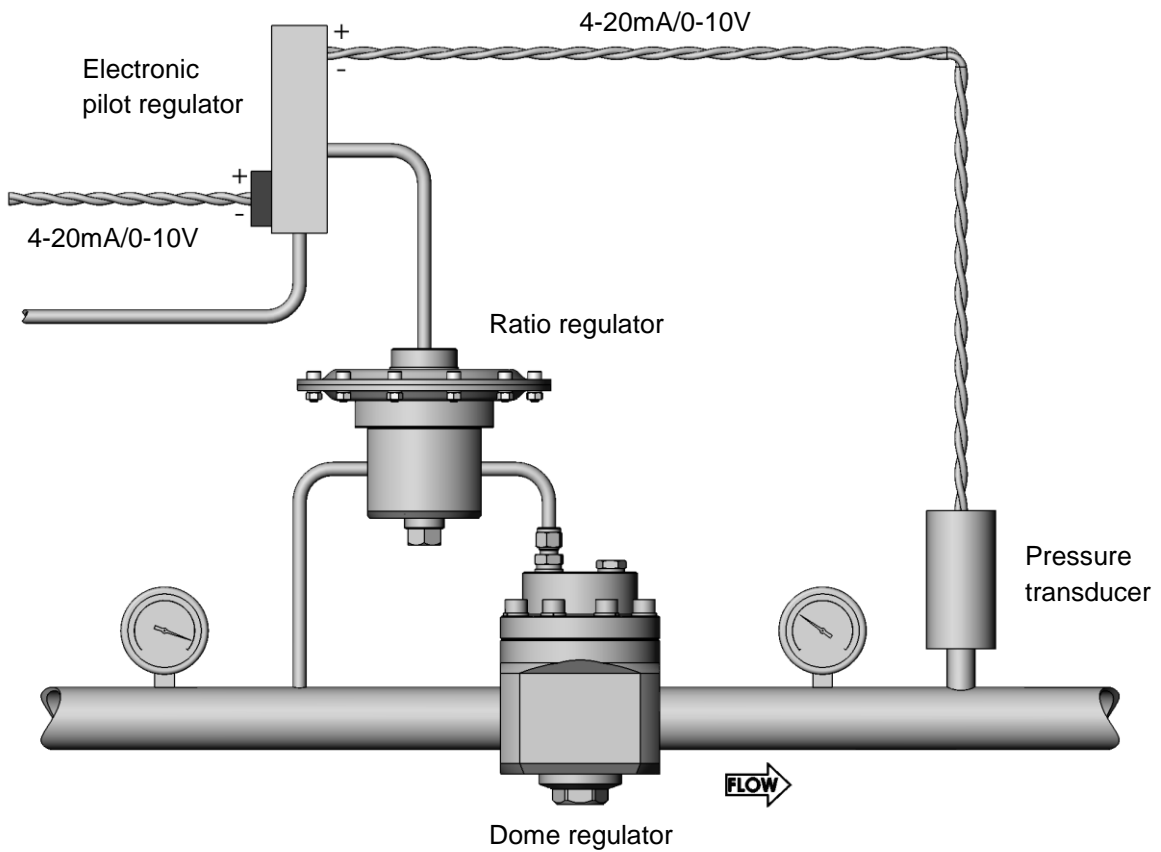

Fig 5
- **Ratio control.** In this setup a ratio pilot regulator, fed from the system pressure, is used to control the dome pressure. The ratio pilot can be controlled by an electronic regulator and pressure transducer combination (Fig 5) or by an external dome feed. The ratio pilot outlet pressure is proportionally larger than its sensing pressure. This enables the main regulator to achieve full outlet pressure while being controlled from a low pressure supply. This setup is not suitable for liquid applications.